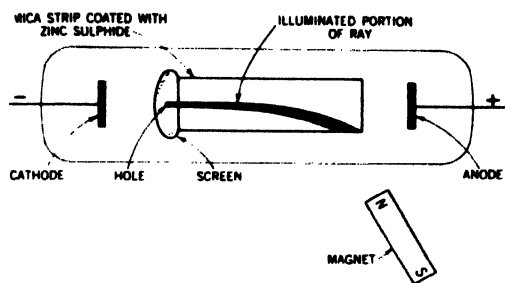

Fig. 42-3. How the electron stream is deflected by a magnet.
**Deflection of Cathode Rays by a Charged Plate.** Thomson discovered another curious thing about these cathode rays. He held a magnet near the glass tube. The path of the rays, as shown on the mica strip, was deflected by the magnet. The stream of electrons was deflected by the magnet, and the stronger the magnet, the more the electrons were deflected (Fig. 42-3). This was because the moving electrons within the tube set up their own magnetic field which interacted with that of the magnet.
You will recall that the electron beam may also be deflected by a magnetic field (See Figure 42-3). Accordingly, some cathode-ray tubes do not have any deflecting plates. Instead, electromagnets are mounted on the neck of the tube. Since the magnetic field can act through the glass, varying the current flowing through these electromagnets causes corresponding variations in their magnetic fields. As a result, the electron beam is de-